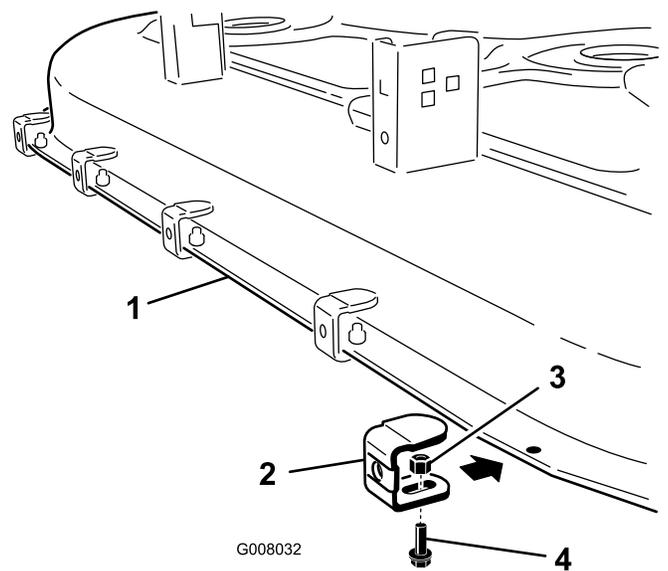

Figure 6
3. Install the assembled brackets to the holes shown in (Figure 6) using the five bolts (1/4 x 3/4 inch) and five lock nuts (1/4 inch). Hold the rubber cap of the bracket tightly against the back of the deck and tighten. Use the left hole for the middle bracket.